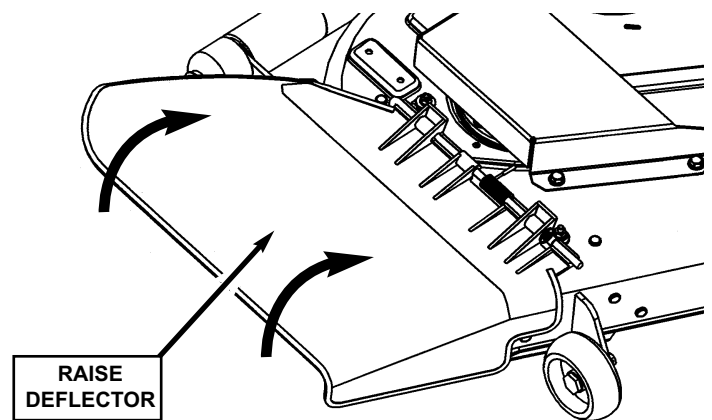

FIGURE 4
STEP 3: Raise the discharge deflector. See Figure 4.